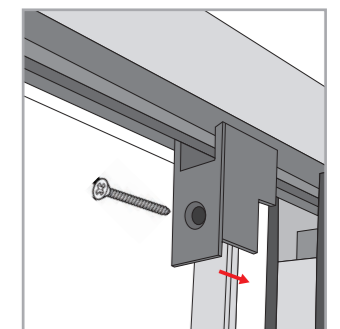

Figure 23: Installing the front side track guide.
Step 9 - Screw the front side track guide in place to install as shown in Figure 23.